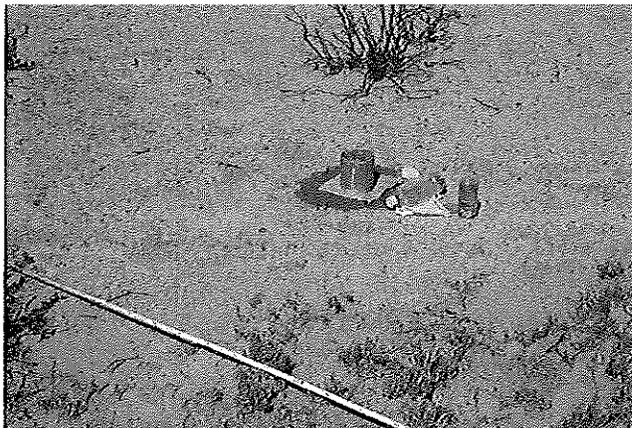

Figure 8.1. Infiltration supplies and sample location.
- 1.1 Randomly select points along the transects used for Line-point and Gap intercept (Fig. 8.1).